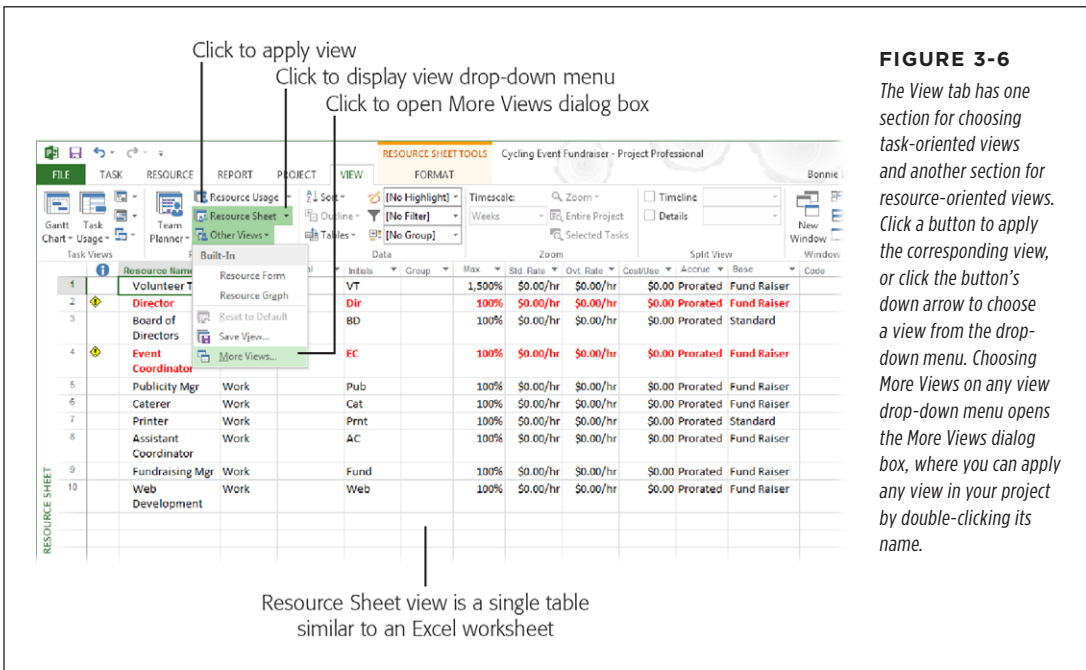

FIGURE 3-6
- **The View tab.** This tab (shown in Figure 3-6) has two sections devoted to choosing views. The Task Views section contains buttons to display Gantt Chart view, Task Usage view, Network Diagram view, Calendar view, and Task Form view. In the Resource Views section, click the appropriate button to apply Team Planner view, Resource Usage view, or Resource Sheet view. If you want to apply a view that doesn't have a button, click the down arrow on any of these buttons, and then choose More Views on the drop-down menu that appears.
Some views, like Resource Sheet view and Task Sheet view, are like giant tables, similar to Excel worksheets, as you can see in Figure 3-6. But most views have a left and a right pane. For views like Gantt Chart and Task Usage, the left side of the view is a table with field values in the columns, as shown in Figure 3-7. The rows show tasks, resources, or assignments. You can add or edit values directly in the table or use it simply for reviewing. The pane on the right side is called the *timescale* and shows values by time period. In a Gantt Chart view, task bars in the timescale show when tasks begin and end. Task Usage view's timescale uses a time-phased table instead, in which the columns represent time periods.